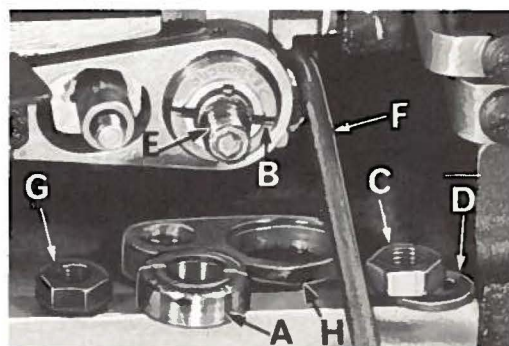

Fig. 12
If eccentrics are unusually tight fitting, in addition to removing nut (C) and washer (D) (Fig. 12) from shaft (E), it may be helpful to remove nut (G) and feed driving connection (H). Then continue as originally suggested.